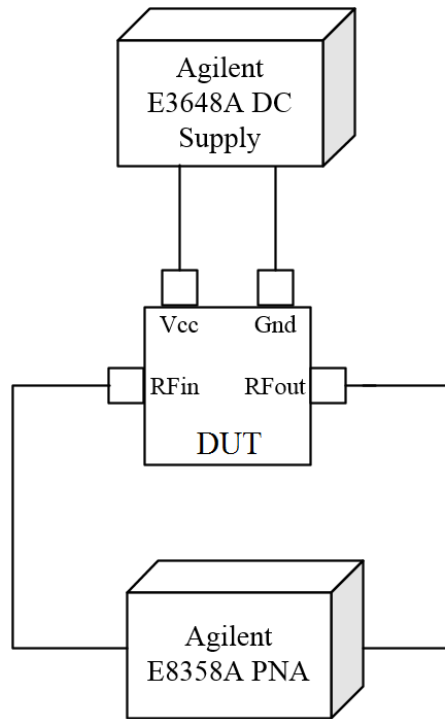

Figure 1: Vector Network Analyzer experiment setup diagram
1. Set up equipments as shown in Figure 1. Make sure the DC power source shows “OUTPUT OFF” during your set up. **Important:** Set the *current limit* according to the value you found in question 1, *pre-lab*. This is to make sure the DC supplier will never send out a current that is high enough to destroy the PA. If you couldn’t figure it out, ask your TA. Turn the DC source on by pressing “Output On/Off” before measuring the amplifier so that we measure an operating amplifier, not an unbiased one.
- Set up the PA as in Figure 1.